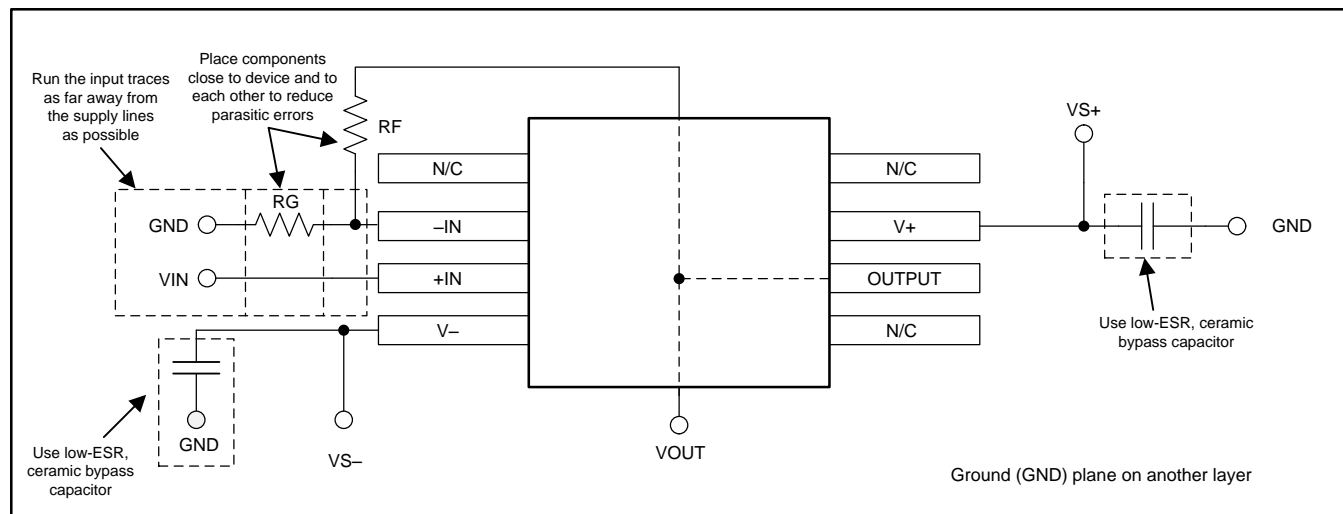

Figure 35. Operational Amplifier Board Layout for Noninverting Configuration
- Place the external components as close to the device as possible. As illustrated in Figure 35, keeping RF and RG close to the inverting input minimizes parasitic capacitance.